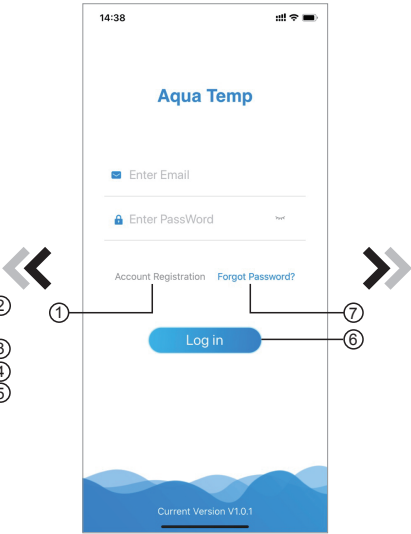
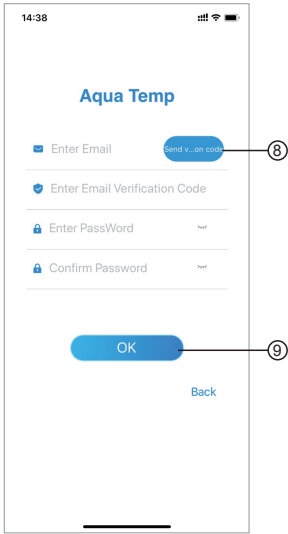

Fig.1 Login interface
Fig.3 Forgot Password interface
1. Account Registration: To register an account, click ① (Fig.1) to jump to the Account Registration interface, fill in the relevant information and click ② to receive verification code, while completed the application information, click ③ to read the details of the Privacy Policy, then click ④ to agree, and click ⑤, registration is done.
2. Log in: Follow the instructions on the page(Fig.1), enter your registered email address and password, click ⑥ and jump to device list;
3. Forgot Password: While forget your password, click ⑦ (Fig.1), jump to the Forgot Password interface (Fig.3). Follow the instructions on the page, fill in the relevant informations, click ⑧ to receive verification code from your mailbox, click ⑨ to confirm and password reset is done.